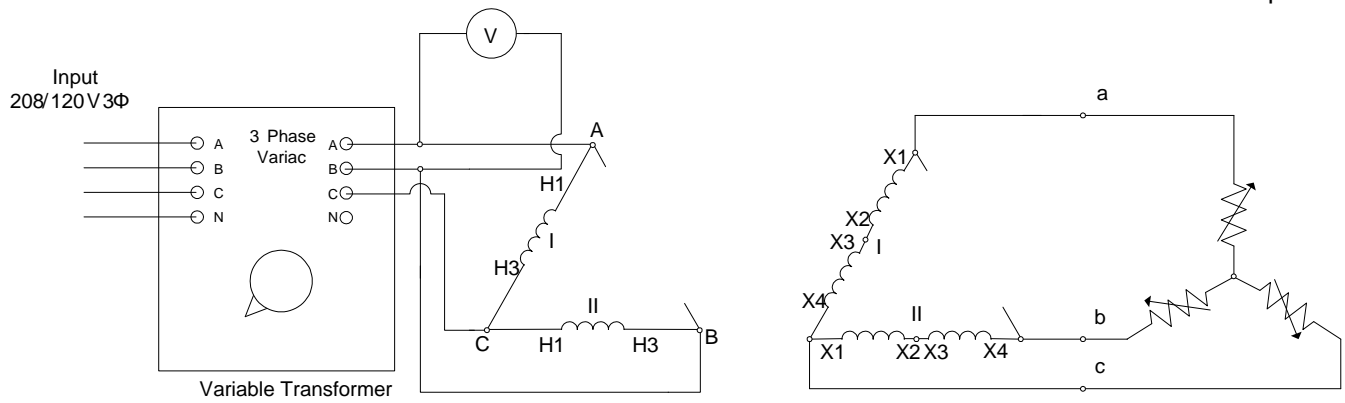

Figure 5- Open-Delta Connection
10. Connect the two, single-phase transformers as shown in Figure 5 (Note you need only two, single-phase transformers.) **Have the Instructor check your circuit.**